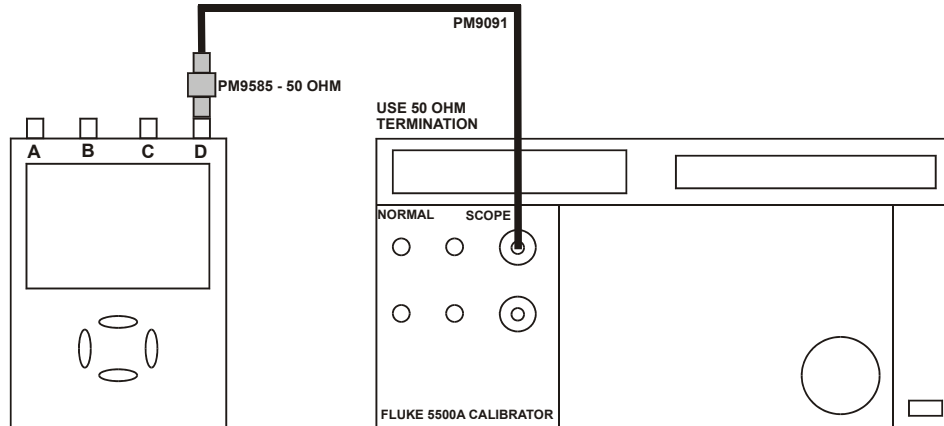

Figure 4-10. 5500A Scope Output to Test Tool Input D
1. Connect the Test Tool to the 5500A as shown in Figure 4-10.
1. Connect the Test Tool to the 5500A as for the previous test (see Figure 4-10).